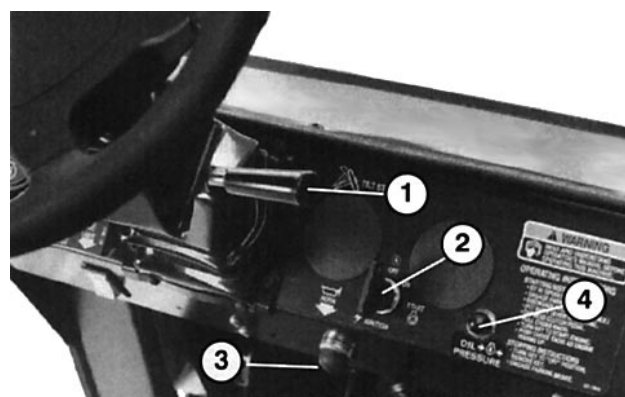

Figure 7
**Tilt Steering Lever** (Fig. 7)—Lever on right side of the console lets you adjust the steering wheel for your comfort.
**Horn Button** (Fig. 7)—Pressing this button activates the horn.
**Engine Low Oil Pressure Light** (Fig. 7)—This light glows if engine oil pressure drops below a safe level
**Ignition Switch** (Fig. 7)—The ignition switch, used to start and stop the engine, has three positions: OFF, RUN and START. Turn the key clockwise—START position—to engage the starter motor. Release the key when the engine starts. The key will move automatically to the ON position. To shut the engine off, turn the key counterclockwise to OFF.